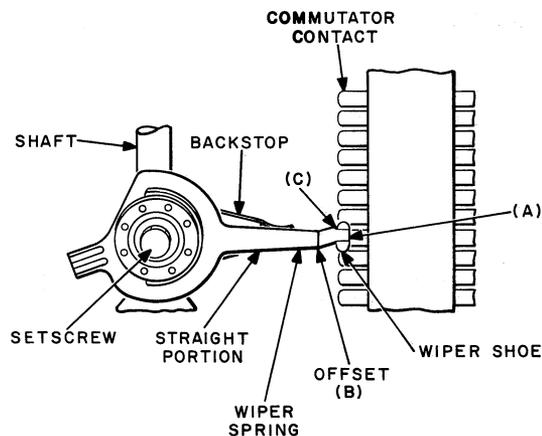

Fig. 5 — Commutator Wiper and Associated Parts
2.14 Centering of Wiper on Commutator Contacts: Fig. 5(A) — With the shaft in position to cut in on any level, the centerline of the wiper spring shall line up with the centerline of the commutator contact corresponding to that level within the limits of
2.15 Wiper Spring Tension: Fig. 5(B) — The tension of the wiper spring against the bottom commutator contact measured at the offset in the wiper spring between the straight portion and the tip shall be
(b) **Fig. 5(C):** With the shaft on the first vertical step and held in the rotary position in which the wiper back stop just lifts the wiper spring from the associated commutator contact, the wiper spring and the commutator contact shall overlap.